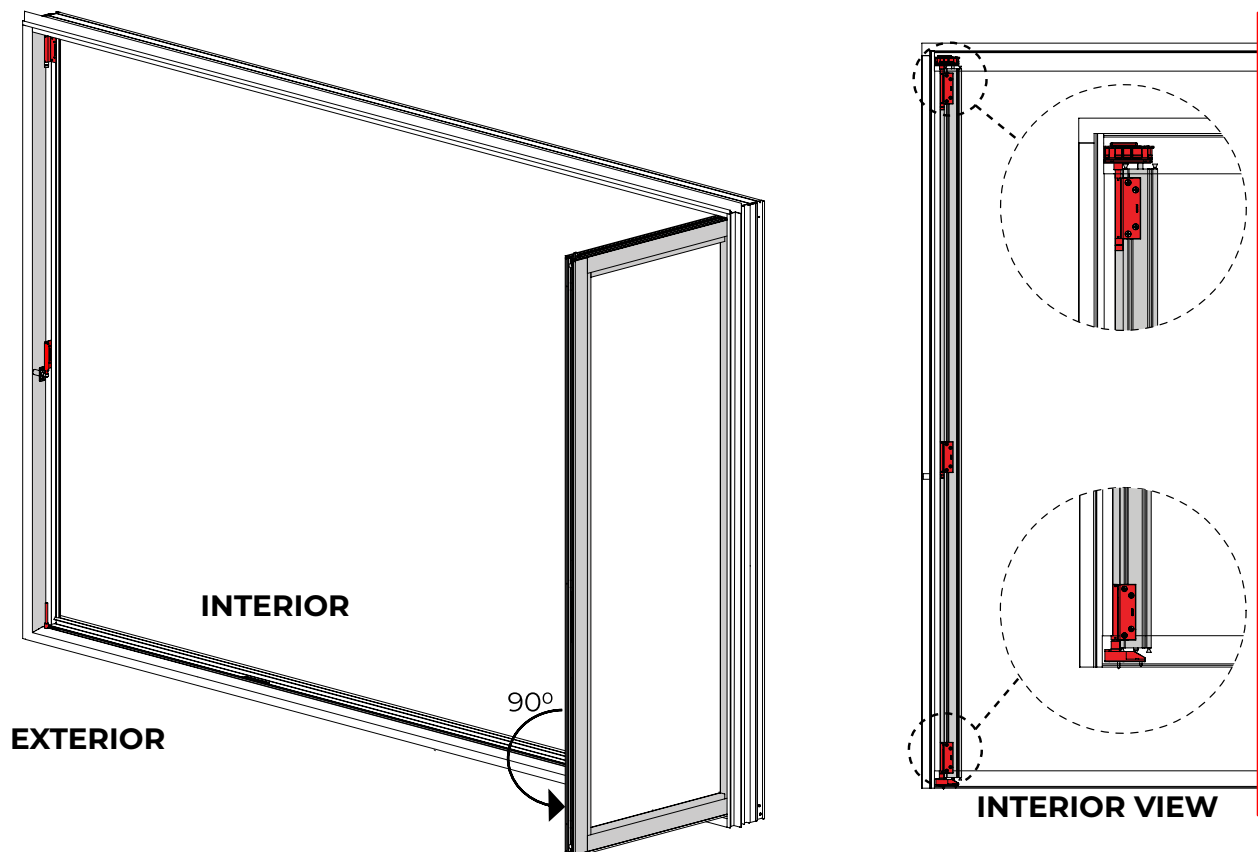

FIG 36
- From the exterior of the building, with the Glazing Bead of the panel to the exterior, Prop door 90 Degrees to the Jamb, use temporary support to adjust the height to align top hinge plate holes in door panel. **[FIG 36]**